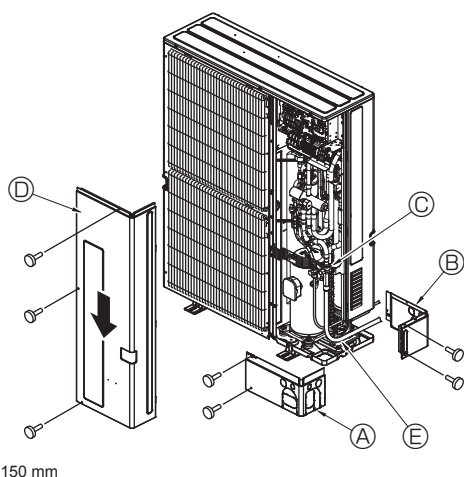

Fig. 4-10
4.5. Refrigerant piping (Fig. 4-10)